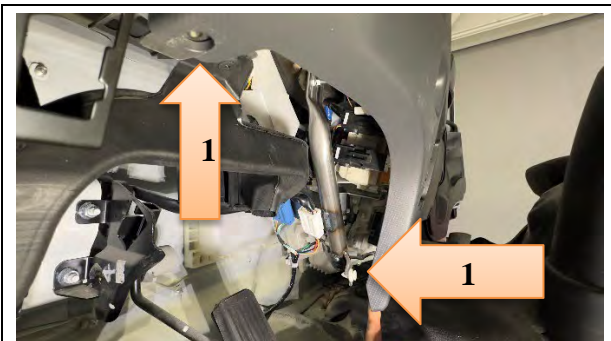

Figure 18
18. Remove the two (2) clips shown in Figure 18 from the instrument panel.